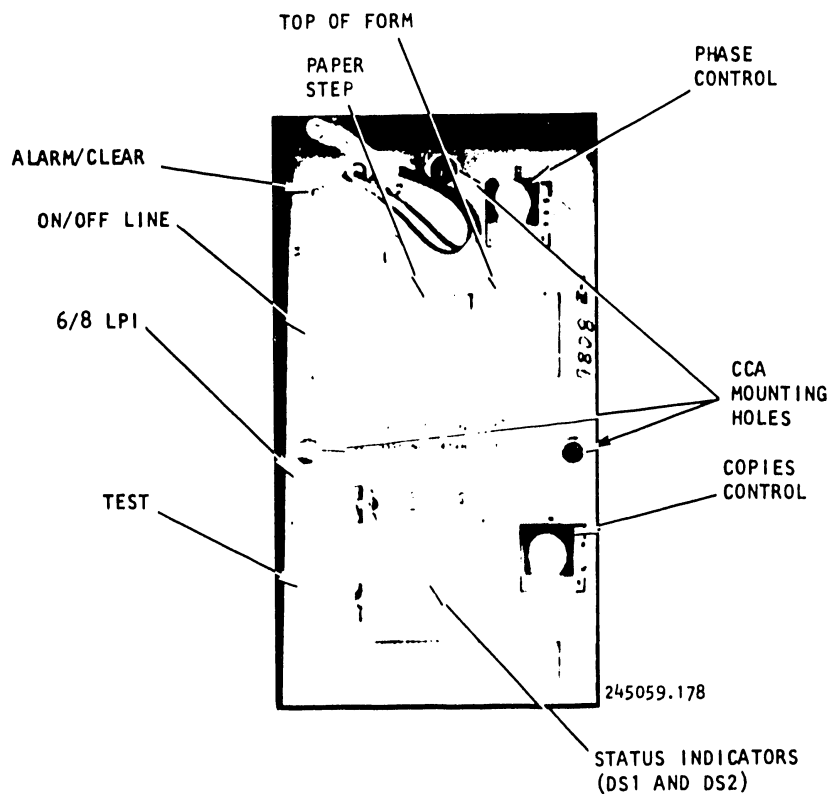

Figure 3-11. Control Panel CCA Removal/Replacement
- i. With a 5.5mm nut driver, remove the three (3) screws that secure the Control Panel CCA and the Operator's Guide pocket to the control panel base (**figure 3-11**).
- o. Position the Control Panel CCA and the Operator's Guide pocket, and secure the three (3) screws removed in **step i** with a 5.5mm nut driver.
- p. Plug STATUS indicators DS1 and DS2 into the Control Panel CCA. See **figure 3-11**.
- q. Replace the four (4) switch caps removed in **step h**.
- l. Using a 7mm nut driver, remove the three (3) hex head spacers, washer, and grounding clips from the back of the Circuit Card Assembly.
- n. The STATUS indicators DS1 and DS2 may be removed by unplugging them from the front of the Circuit Card Assembly. See **figure 3-11**.
- o. If the STATUS indicators DS1 and DS2 were removed, plug them into the circuit card sockets. See **figure 3-11**.
- p. Fit the Circuit Card Assembly into the molded housing, and replace the grounding clips, washer, and three (3) hex head screws.